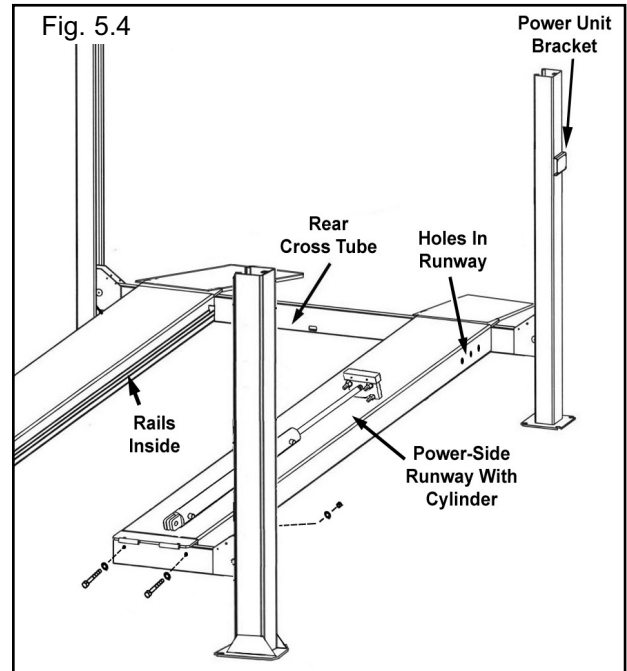

Fig. 5.4
4. Position the Powerside Runway on top of the Cross Tubes with the utility rail towards the center. The fitting holes located at the side of the Powerside Runway should be adjacent the Power Unit Column. Align the holes in the runway with the holes on the Cross Tubes and bolt together using four M12 x7.75 x 90 hex bolts and washers. (See Fig. 5.4)